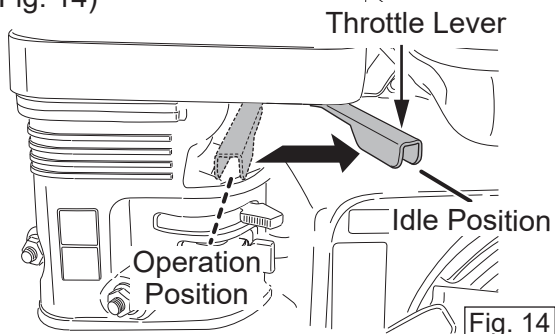

Fig. 14
4. Move the throttle lever to the idle position. (Fig. 14)